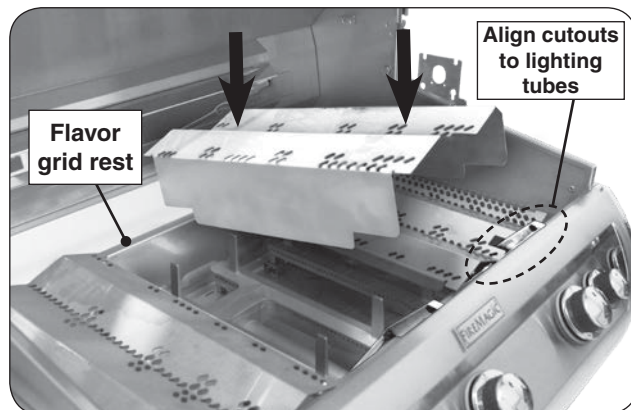

Fig. 21-1 Install flavor grids
1. Lift the heatshield slightly, then place a liner into the drip tray (Fig. 21-1, A and B).
2. Then fully insert the drip tray assembly into the bottom front opening of the control panel (Fig. 21-1, C).